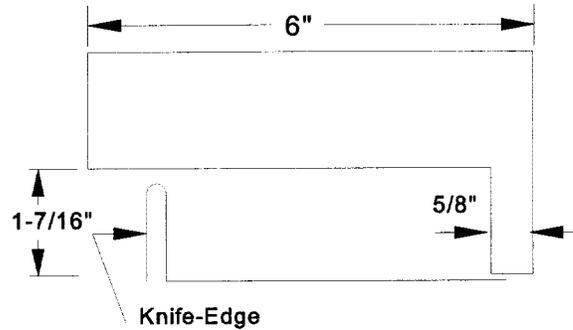

Figure 2-4. Gauge for Measuring Knife-edge Height
- c. Inspect the entire knife-edge for proper height. A block of aluminum cut to the specifications shown in figure 2-4 is an effective gauge. If the knife-edge is more than 1/8 inch too high or too short, it must be repaired in accordance with step d.